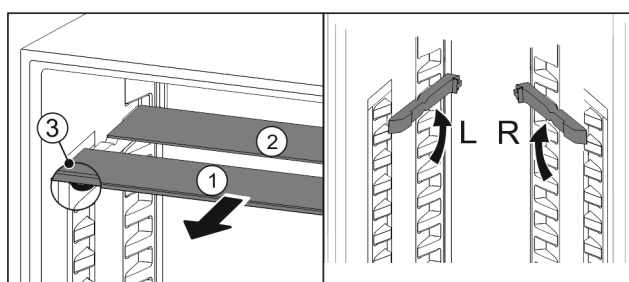

Fig. 211
- Pull the glass panels out Fig. 211 (1) from the front, one at a time.
- The glass panel Fig. 211 (1) and trim strip are at the front.
- The stops Fig. 211 (3) point down.